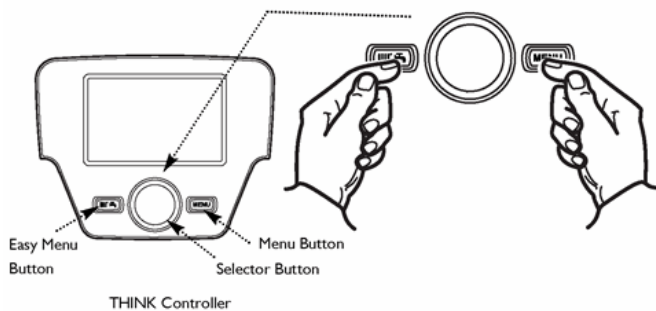

Fig. 74a
2. To do this it is necessary to activate the chimney sweep function by pressing and holding the easy menu and menu buttons (Fig. 74a) whilst in the normal operation screen until chimney sweep function option appears. Press the Selector Button to switch the chimney sweep function on.